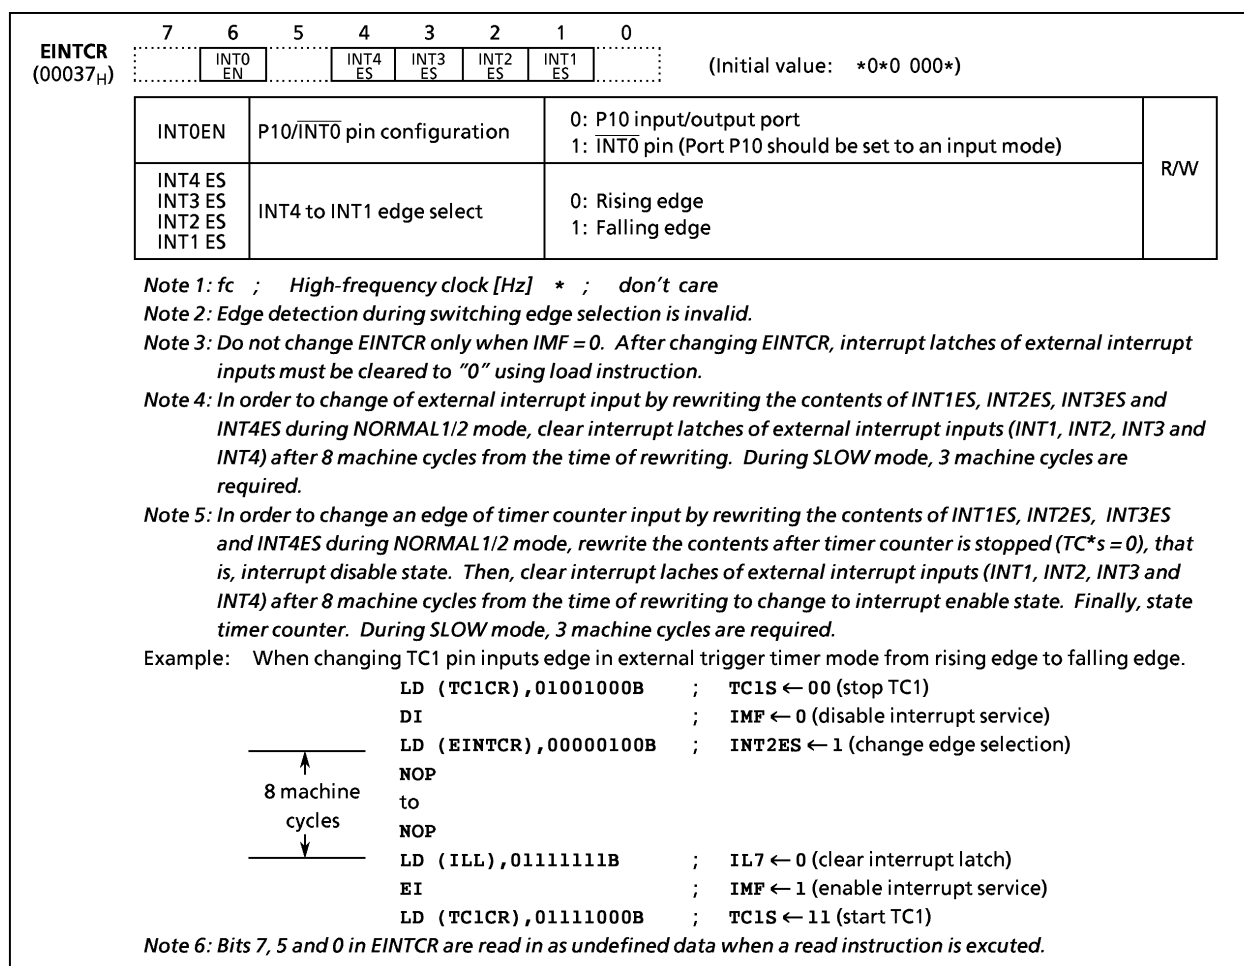

Figure 1-20. External Interrupt Control Register (1)
If changing the contents of INT1ES during INT1W is set to 1, according to Note 3/4/5 at Figure 1-20 (1).
If changing the contents of INT2ES during INT2W is set to 1, according to Note 3/4/5 at Figure 1-20 (1).
If changing the contents of INT3ES during INT3W is set to 1, according to Note 3/4/5 at Figure 1-20 (1).
If changing the contents of INT4ES during INT4W is set to 1, according to Note 3/4/5 at Figure 1-20 (1).